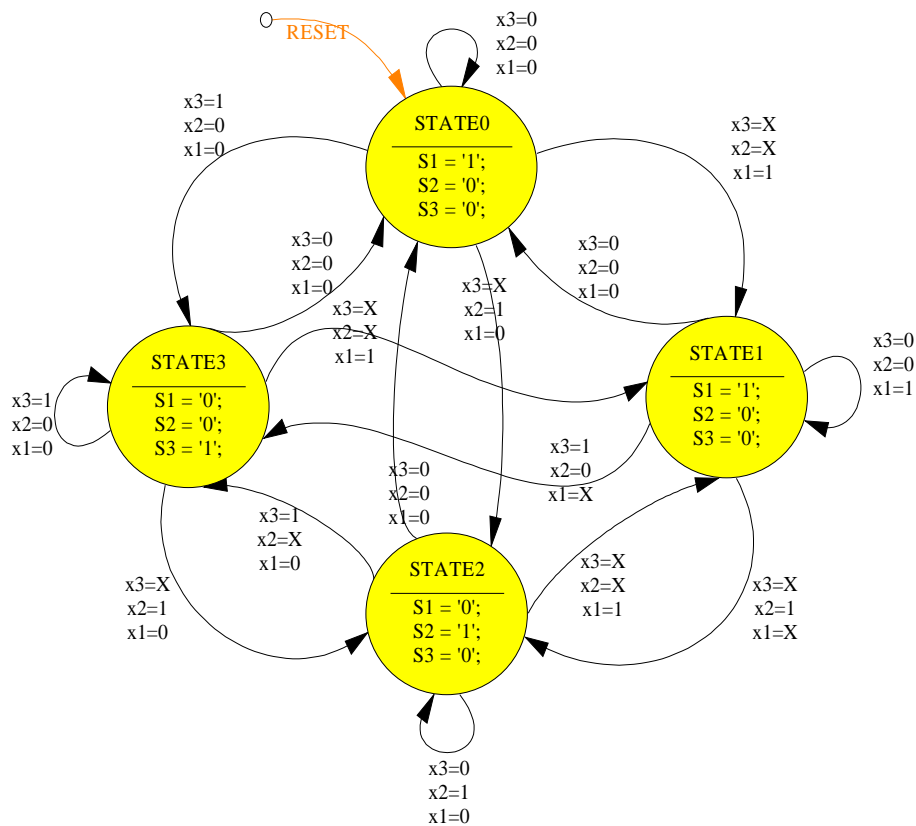

Figure 3: State Diagram for Traffic Light FSM
Based on the above specifications, the state diagram of this Finite State Machine has been provided in Figure 3 below. Your objective in this experiment is to implement the functionality described by this state diagram using Verilog HDL.
4. In the *Traffic_Controller.v* file, implement a module named *Traffic_Controller* which will implement the functionality specified by the state diagram of Figure 3.
- f. Another for the Output Logic, which generates the signals $S1$, $S2$, and $S3$ based on the Current State only (see Figure 3 above).